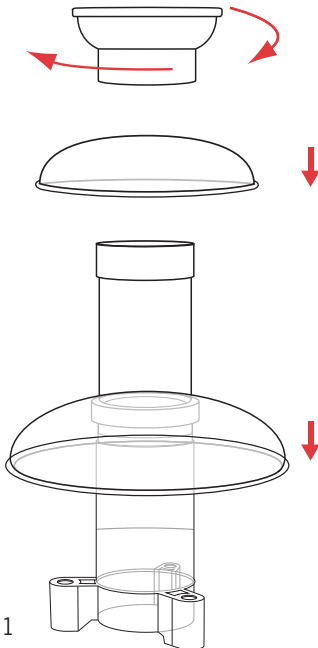

Figure 1
3. Construct the tower by placing the largest disc onto the tower facing downwards and align the grooves on the tower with the spaces on the disc. Place the middle sized disc onto the tower, also facing downwards, aligning the grooves with the spaces on the disc. Finally place the smallest disc, facing upwards, onto the top of the tower and twist clockwise to lock into place. See figure 1.